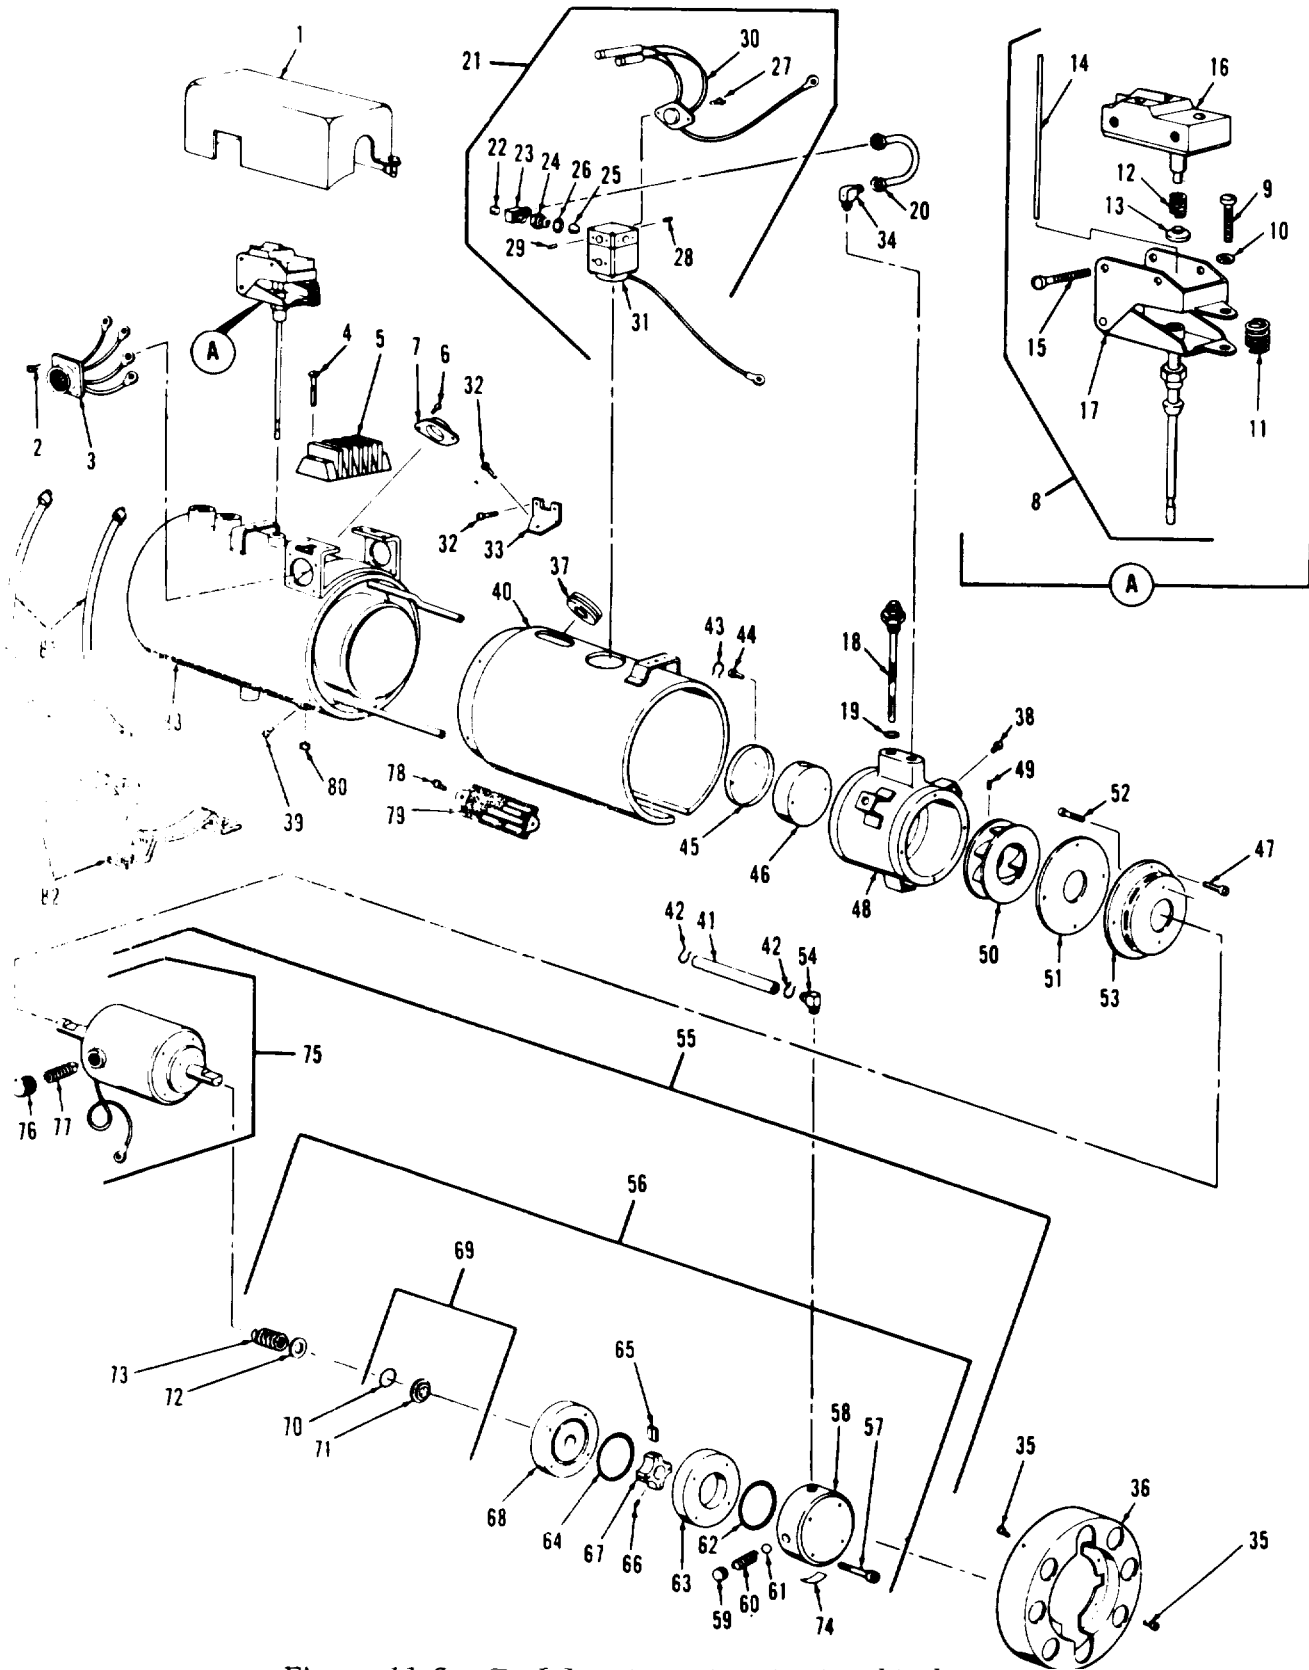

Figure 11-2. Fuel burning winterization kit heater, exploded view
Refer to figure 11-2 and disassemble heater in the order of index numbers assigned. Pay particular attention to the following:
c. Inspect springs for condition. Inspect spring (60, figure 11-2). Using a suitable spring compressor, apply a load of 1 ± 0.1 pounds and compress spring (60) to a working length of 0.750 inch. Spring should measure 1.164 inches free length after test.
f. Inspect regulator valve assembly (21) as follows:
Legend to figure 11-2:
q. Inspect plate (58, figure 11-2) for damaged or scored face.
a. Seal face of adapter (68, figure 11-2) and seal face of seal cage (71) can be dressed to remove minor nicks, scratches or scoring. Remove only material necessary to clean up seal face. Seal face must be parallel with rotor side of adapter within 0.001 inch per inch. Replace either part if imperfections cannot be dressed cut.
Refer to figure 11-2 and reassemble heater in the reverse order of index numbers assigned. Pay particular attention to the following: